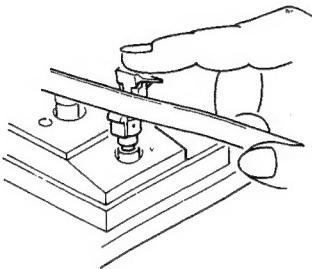

Fig. 5
- Secure the tonearm on the rest with the clamp, and adjust the tonearm height to 5.5mm with the arm set screw. (Fig. 5, 6)